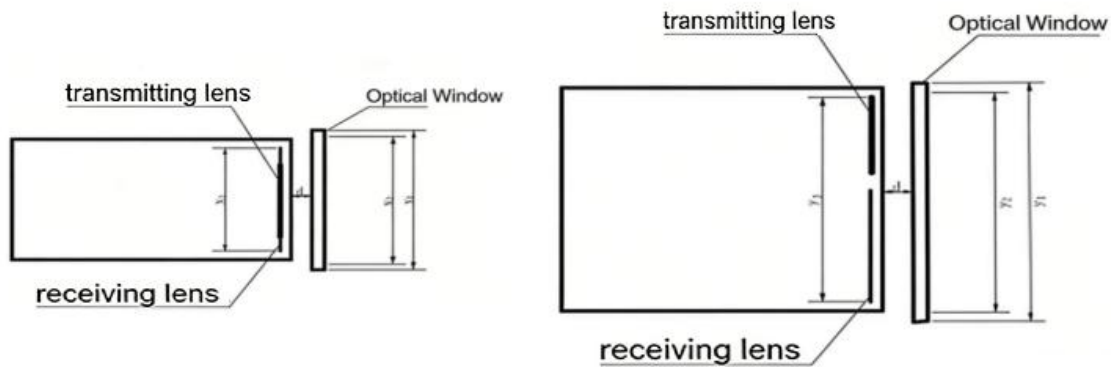

Figure 5: Schematic diagram of the two placement methods and the dimensional outline of the Optical window
- Before Power-on, connect the laser rangefinder, debugging cable, DC power supply and upper computer as shown in Figure 5 in accordance with the interface requirements in 4.2.
Due to the high transmittance of the optical window, the transmitting optical axis is recommended to be parallel to the normal axis of the optical window, and the air gap between the optical window and the rangefinder shall be less than 0.5mm. The schematic diagram of the position of the optical window and the two lens barrels is shown in the figure 5.